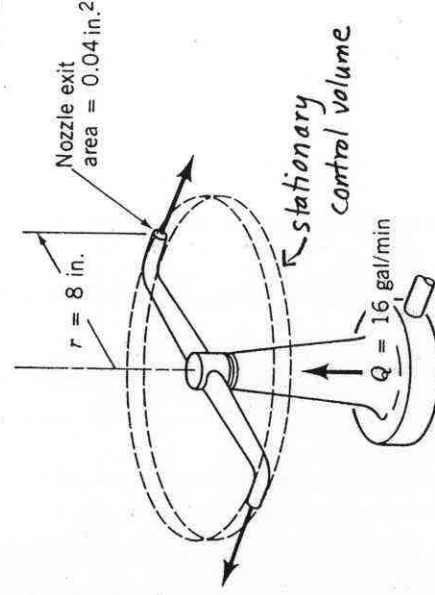

FIGURE P5.53
5.53 Water enters a rotating lawn sprinkler through its base at the steady rate of 16 gal/min as shown in Fig. P5.53. The exit cross section area of each of the two nozzles is 0.04 in.2 and the flow leaving each nozzle is tangential. The radius from the axis of rotation to the centerline of each nozzle is 8 in. (a) Determine the resisting torque required to hold the sprinkler head stationary. (b) Determine the resisting torque associated with the sprinkler rotating with a constant speed of 500 rev/min. (c) Determine the angular velocity of the sprinkler if no resisting torque is applied.